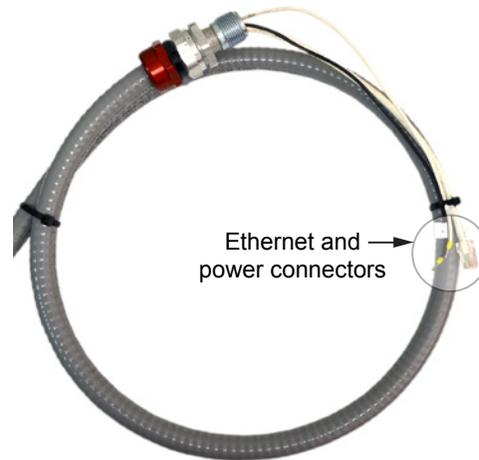

Figure 4.7—Ethernet and power conductors connecting the WiFi box to the Scanner 3100
- f. Thread the Ethernet and power wires shown in Figure 4.7 through the conduit opening in the Scanner 3100 enclosure and tighten the cable connector in the conduit opening.
- h. Wire white (+) and black (-) power wires to the Scanner 3100 PWR terminal block (shown in Figure 4.7).